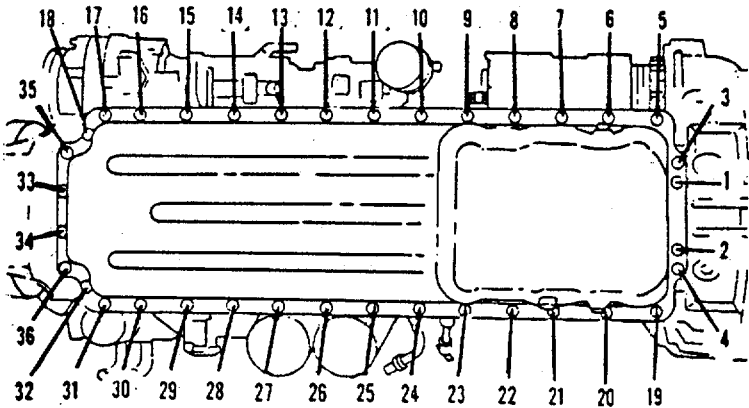

FIGURE 3-43. Oil Pan Torque Sequence.
1. Install the four capscrews that hold the oil pan to the gear cover (1 through 4, Figure 3-43).
- n. Tighten the four 5/16 inch capscrews in the rear of the oil pan to 20 ft-lb (25 N·M) torque in the sequence shown in Figure 3-43.
- o. Tighten the 32 7/16 inch capscrews to 50 ft-lb (70 N·M) torque in the sequence shown in Figure 3-43.